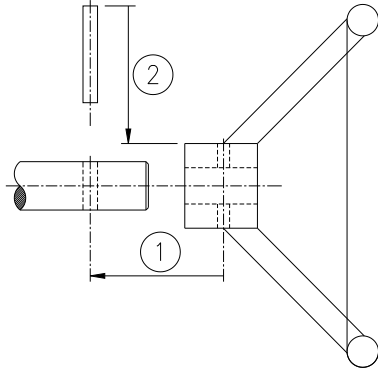

figure 1 : mounting handwheel
4. When the fully closed position can not be achieved, loosen the setscrew-close (see figure 1) by turning them counterclockwise. Continue turning the handwheel until the valve is totally closed.
7. When it can not be achieved to open the valve completely (90°), loosen the setscrew-open (see figure 1) by turning it counter clockwise. Continue turning the handwheel until the valve is completely opened.